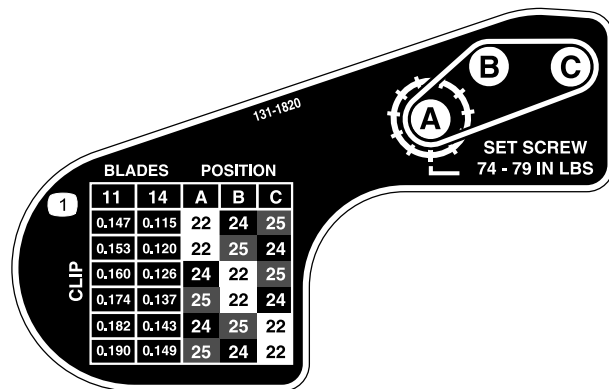

Figure 22
6. Using the chart shown on the decal in Figure 22, determine the clip setting you want and which pulleys you will need to move.
9. Install each pulley in the new configuration as indicated on the decal (Figure 22).